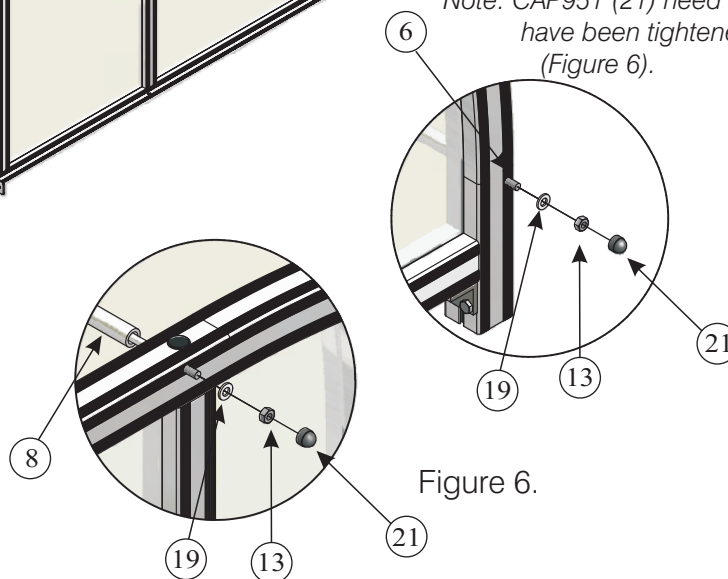

Figure 6.
Note: CAP951 (21) need to be fitted once the retaining bars have been tightened and the shelter is complete (Figure 6).